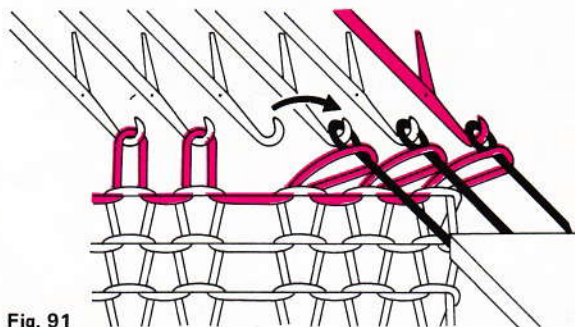

Fig. 91
- Transfer these 3 stitches onto the 3 end needles (fig. 91).